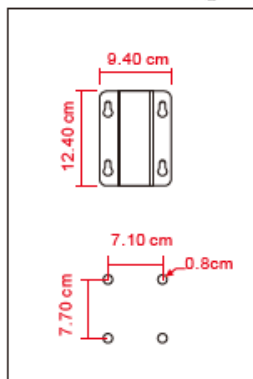

Figure1
- b . Place the wall fan at the desired place for installation, then drill four holes on the wall with the measurement shown in (figure1).